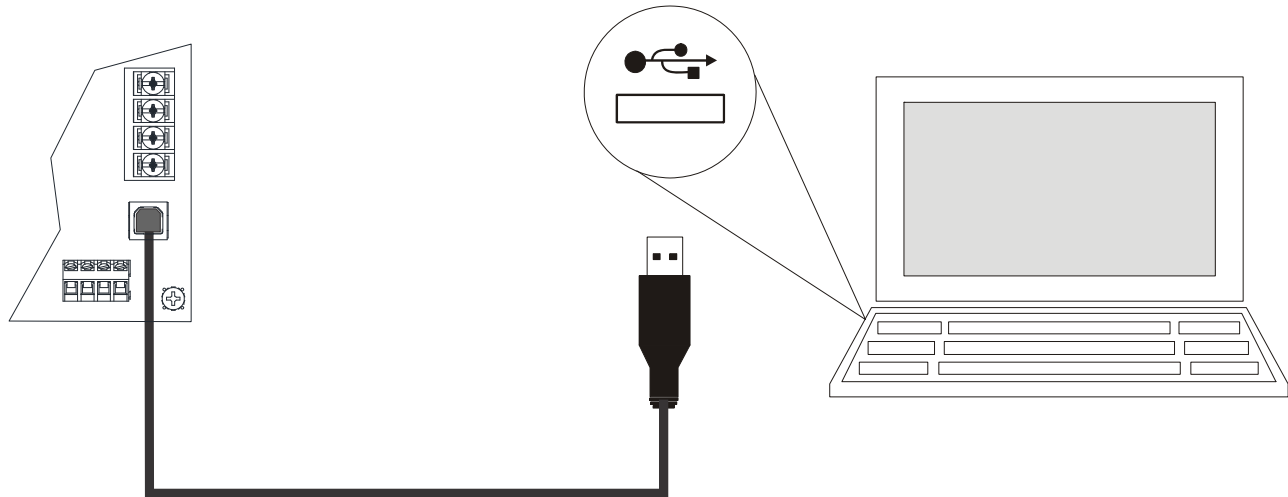

Figure 10.6 USB Cable Connections
2. Connect the PC to the USB port on the FACP using a standard USB cable. The ECS-NVCM will use the USB on the FACP (See Figure 10.6 below). The ECS-VCM will use the USB port on the ECS-VCM.